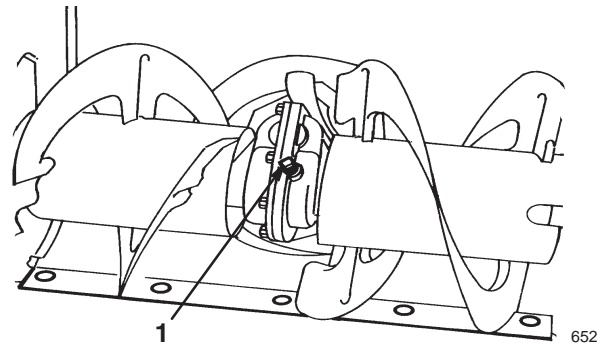

Figure 28
4. Clean the area around the pipe plug (Fig. 28).
5. Remove the pipe plug from the gearbox (Fig. 28).